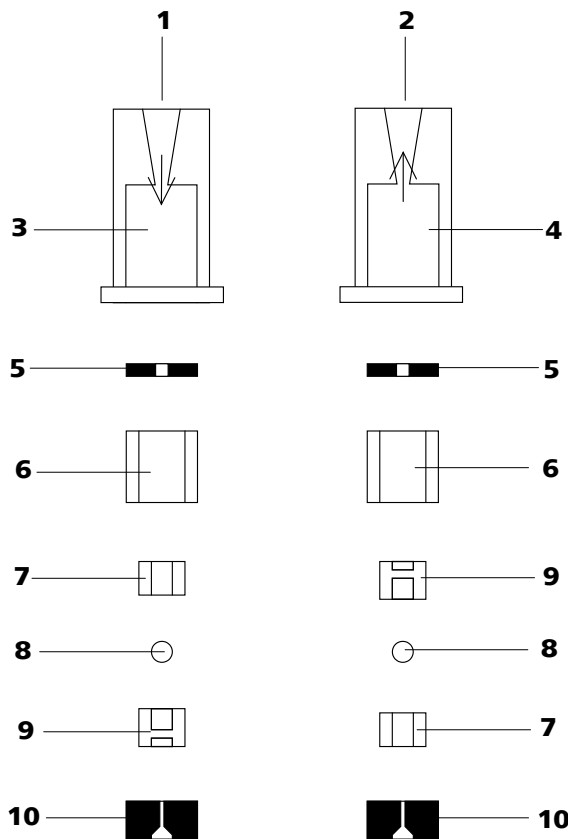

Figure 39 Components of the inlet valve and outlet valve
- The inlet valve and the outlet valve consist of the same, just differently arranged components (see Figure 39, page 78).
Reassemble valve components *according to figure 39, page 78*.
- Lay the other valve components above another in the correct sequence (*see Figure 39, page 78*).
If this is not the case, the valve has to be dismantled again and be reassembled correctly (see *Figure 39, page 78*).